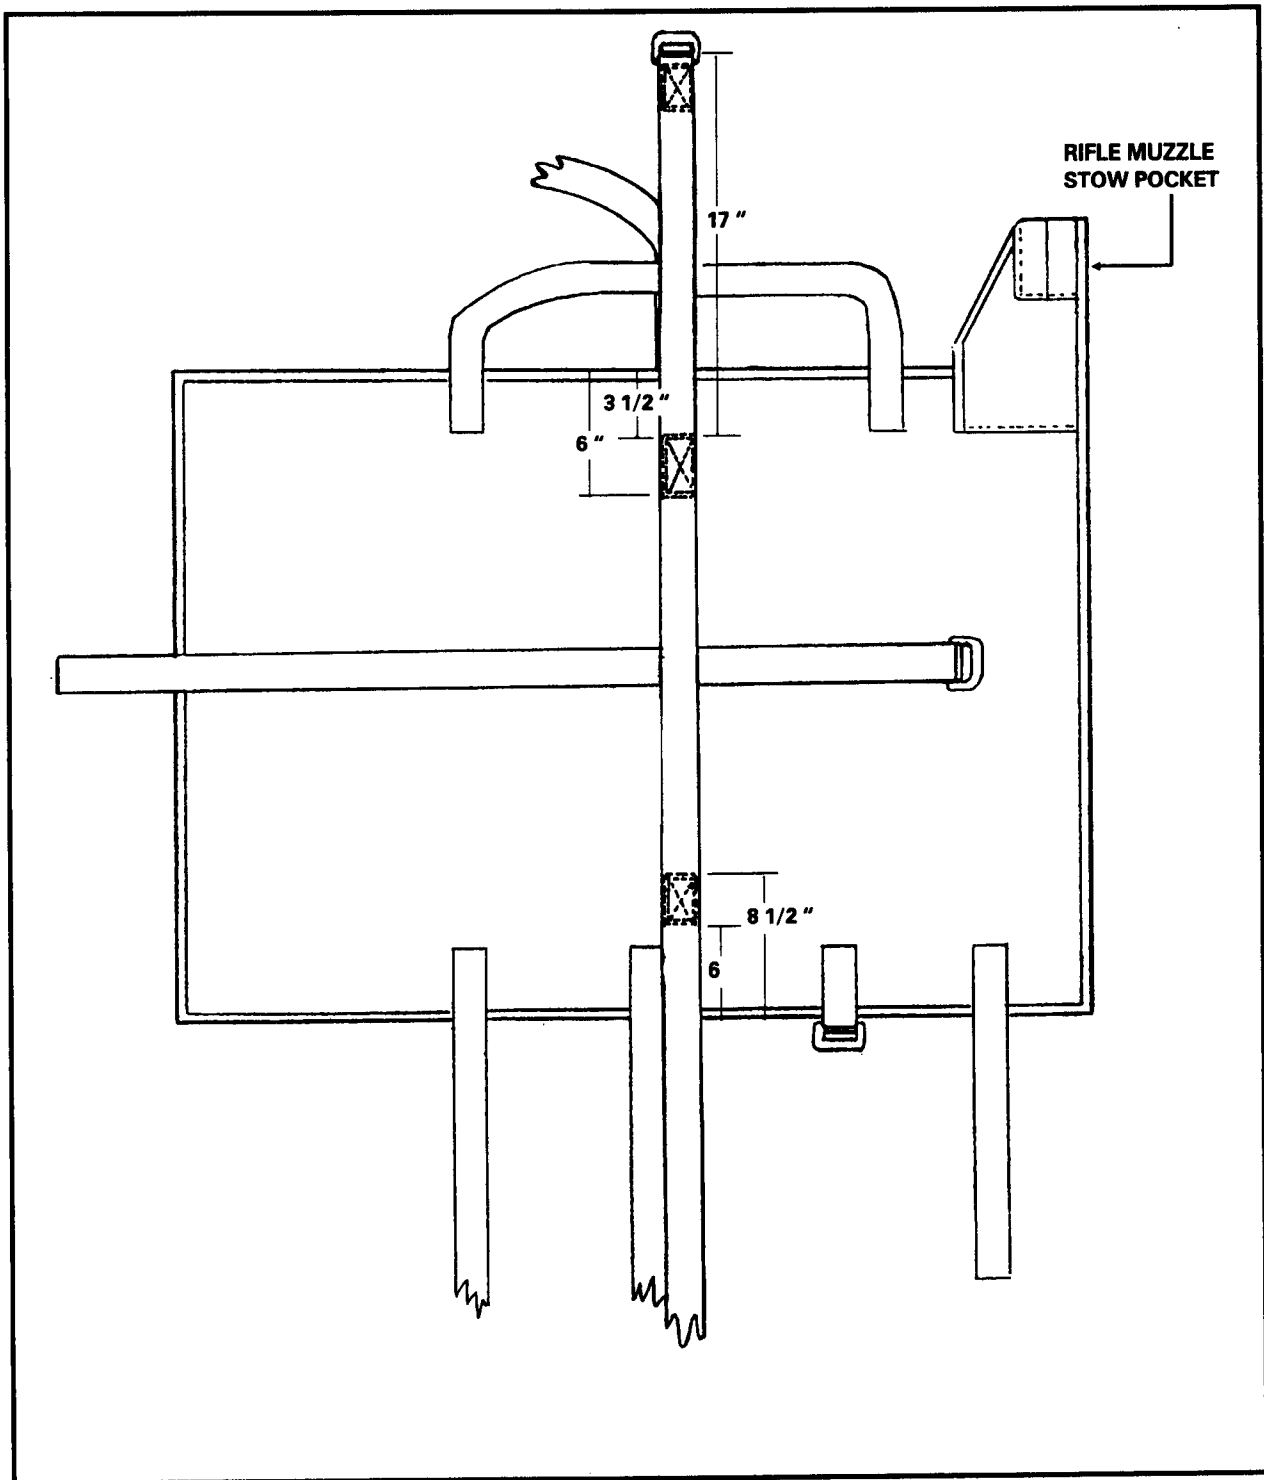

Figure 12-64. A-7A strap cut, marked, aligned, and stitched.
e. Cut a second A-7A strap to an overall length of 68 inches. Mark the A-7A strap at a point 17 inches from the buckle. Align this mark with the 3 1/2-inch mark and stitch with two box-X stitch formations (Figure 12-64, page 12-77).